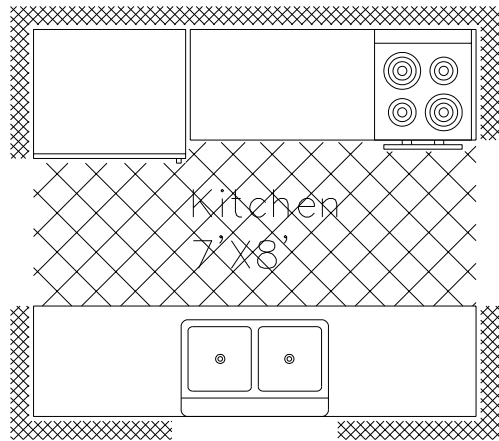

Figure 6-22 Drawing for Example 1
Use the **DesignCenter** to locate and view the contents of the drawing *Kitchens.dwg*. Also, use the **DesignCenter** to insert a block from this drawing and import a layer and a textstyle from the *Blocks and Tables - Imperial.dwg* file located in the **Sample** folder. Use these to make a drawing of a Kitchen plan (*MyKitchen.dwg*) and then add text to it, as shown in Figure 6-22.
12. Use the imported textstyle to add text to the current drawing and complete it refer to Figure 6-22.
1. To create the text, refer to Figure 6-22, you need to change the text height.